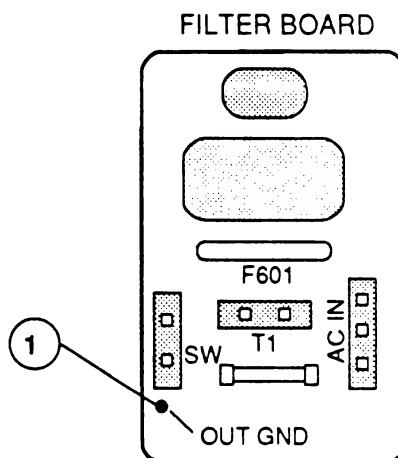
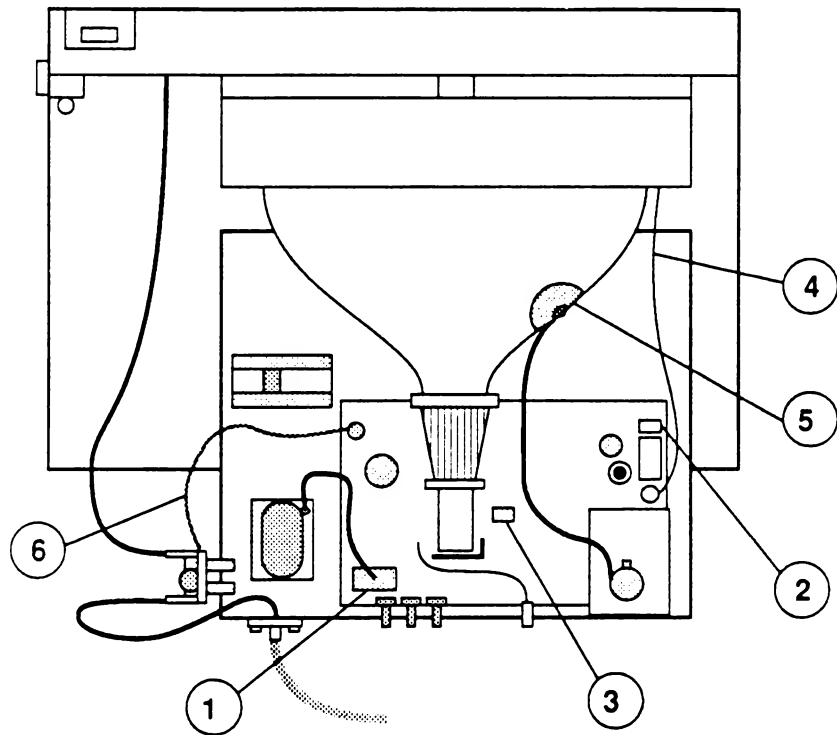

FIGURE 12
FIGURE 13
6. Locate the green ground wire (Figure 13, #6) from the main electronics assembly and solder it to the line filter board at the marking "OUT GND" (Figure 12, #1). (If you removed the line filter board from the chassis, remount it with its screw and reconnect any wires that you removed.)
7. Connect the two red leads from the transformer to connector T2 (Figure 13, #1) on the main electronics assembly.
8. Connect the brown/gray wire to the H-DY connector (Figure 13, #2) and the green/white wire to the V-DY connector (Figure 13, #3) on the main electronics assembly.
9. Replace the mounting screw that secures the main electronics assembly ground wire (Figure 13, #4) to the upper-right corner of the CRT. (Be sure to replace the antistatic shield finger plate, which is also held in place by this screw.)
11. Reconnect the anode cap to the anode of the CRT (Figure 13, #5), making sure that both metal clips are settled in securely.